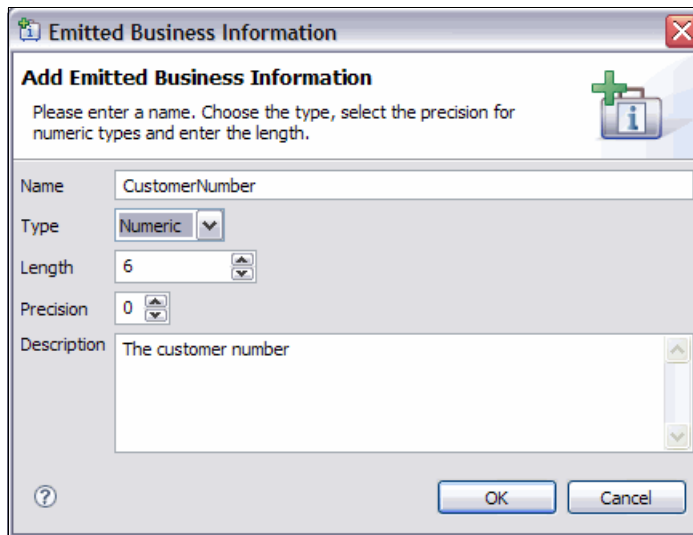
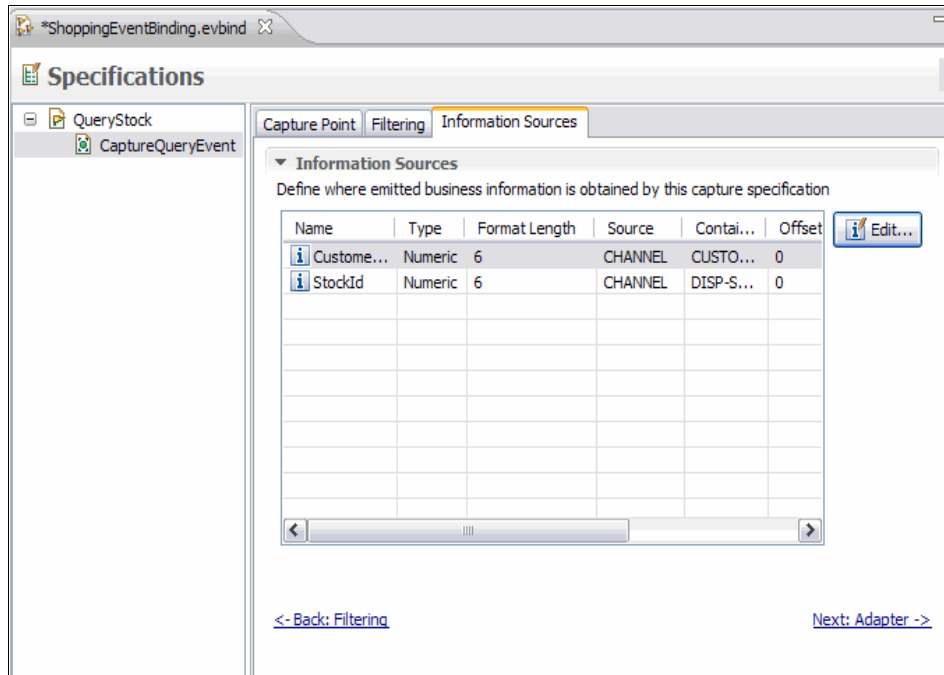

Figure 5-8 Add CustomerNumber business information
Figure 5-16 Information source panel
7. Click the **Specification** tab, and click **Add** next to the Emitted Business Information table. In the Emitted Business Information view, shown in Figure 5-8, enter the following values:
15. Because we already have added Emitted Business Information (Figure 5-8 on page 98) the “Information Source” panel (Figure 5-16 on page 105) has already been filled in. To fill in the information source, select the **CustomerNumber** business information and click **Edit**.